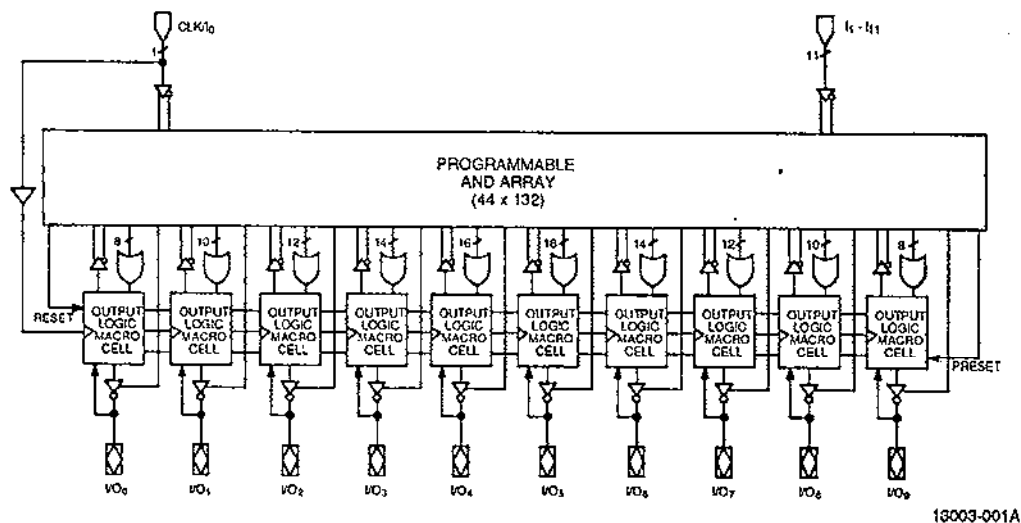

Figure 1. Block Diagram
The PAL22V10 has 12 inputs and 10 I/O macrocells (Figure 1). The macrocell allows one of four potential output configurations: registered output or combinatorial I/O, active high or active low (see Figure 2). The configuration choice is made according to the user's design specification and corresponding programming of the configuration bits $S_0 - S_1$. Multiplexer controls are connected to ground (0) through a programmable bit, selecting the "0" path through the multiplexer. Program-